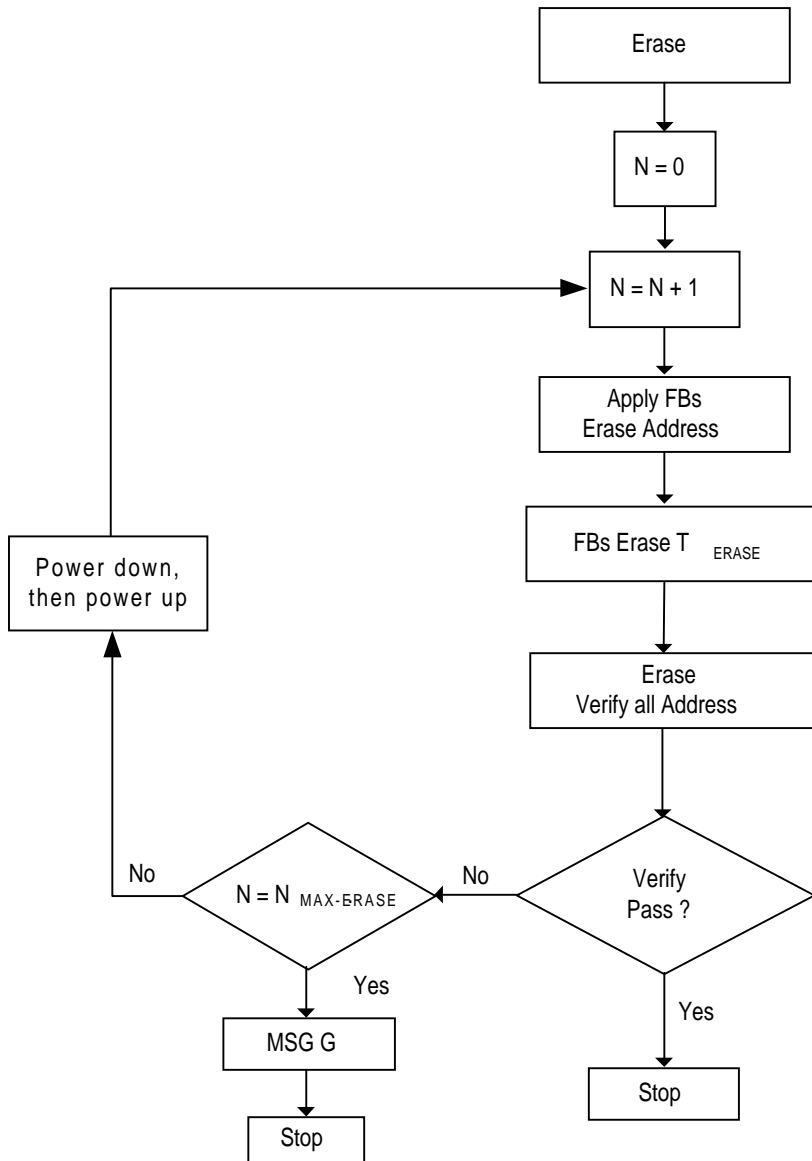

Figure 3. Erase Flow
To erase the device, follow the flow in Figure 3 and the timing according to Figure 9. See the Add.dat file for the Function Block (FB) erase address. Erase the device with Vpp set to Vppers and then perform an erase verify with Vpp set to Vppbnk. If any bits failed to erase, a number of retries are permitted. The number of retries (N_{MAX-ERASE}) can be calculated using the following equation: